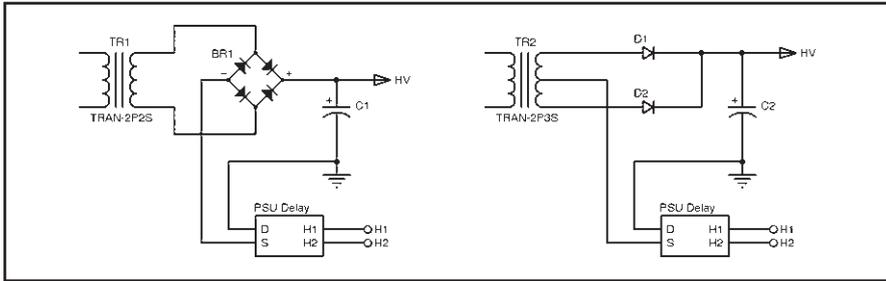

Figure 1: The high-voltage switching topology shows the switch inserted in the return line to the power transformer.
**Figure 1** shows the topology I selected for the last two requirements. By inserting the switch in the return line to the power transformer, I left everything after the first reservoir cap unchanged so there is no impact on the power supply quality and no changes in any carefully laid out ground circuitry. It can be used either with a bridge-type rectifier or a double-phase rectifier as shown.
Let’s start with the switch Q1, which is an N-channel high-voltage MOSFET. The drain is connected to the transformer return line at J1 (see **Figure 1**). The source at J2 is connected to ground. If the switch is closed, the transformer’s secondary return is connected to ground and the high voltage is applied to the amplifier.